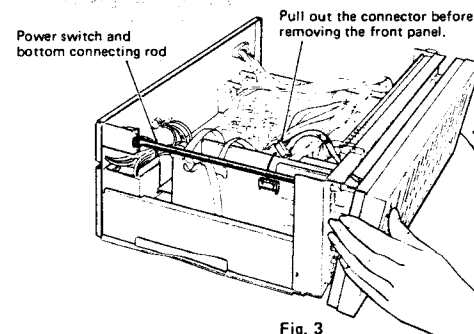

Fig. 3
3. Pull out the 6-pin connector [terminals 20 ~ 25] from the switch P.C.B. on the left side. [Fig. 3]